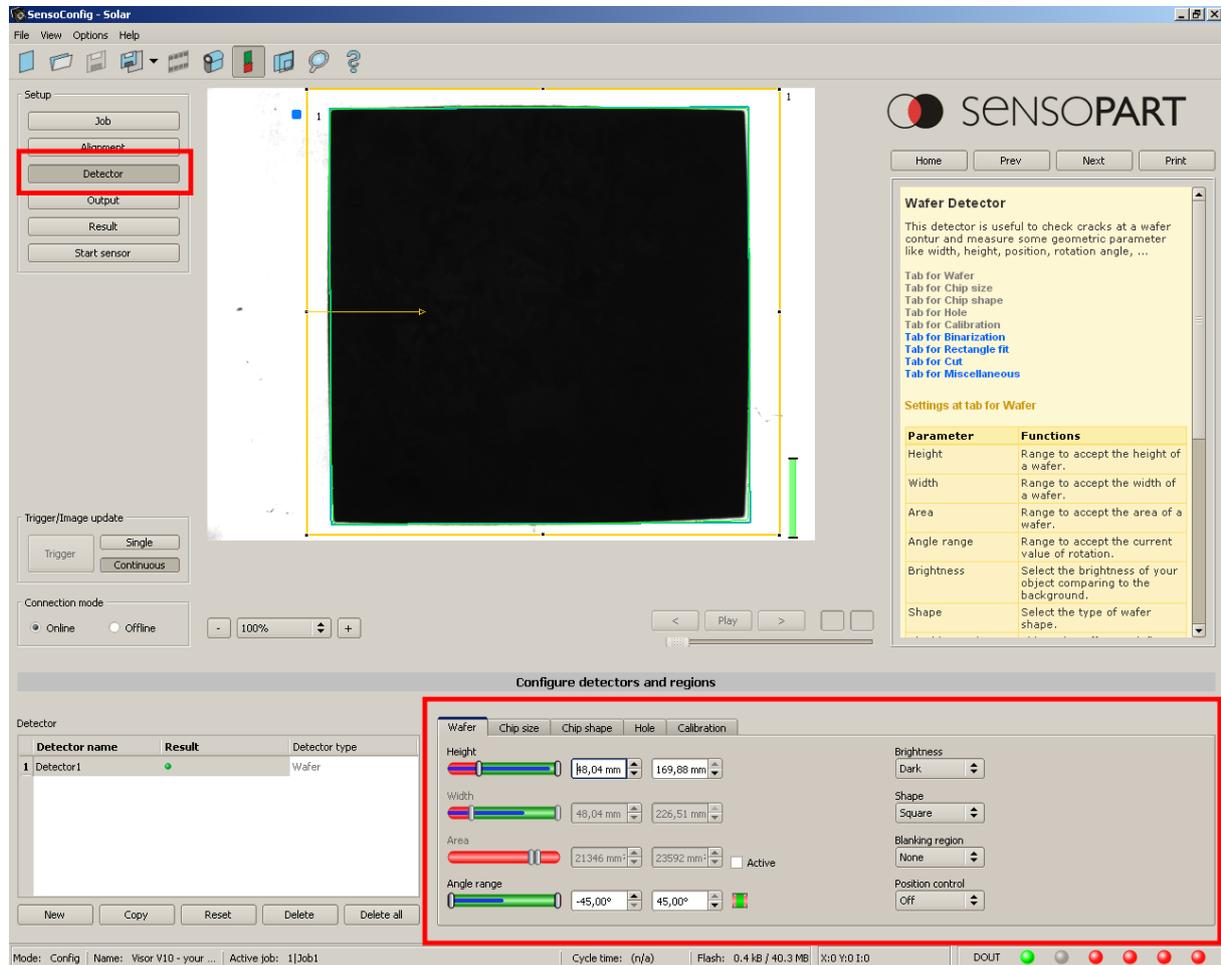

Figure 34: Applying the *wafer* detector for position detection and size verification
- Run a quality control of the wafer dimension as shown in *Figure 34* with just 1 mm tolerance